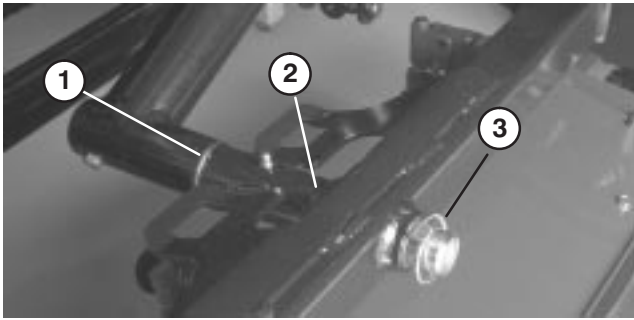

Figure 19
MOUNT CUTTING UNITS (Fig. 19–21)
2. Slide cutting unit carrier frame onto pivot rod and secure with a lynch pin (Fig. 19).